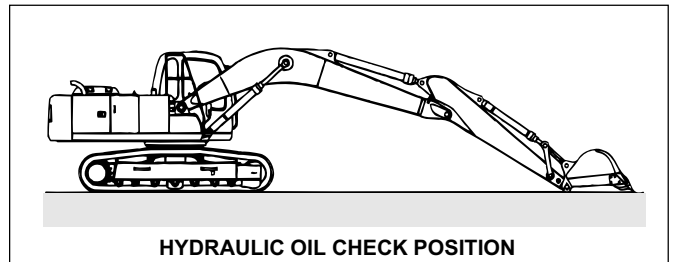

FIGURE 4.6A
1. Move the machine to firm level ground and place the attachments on the ground in the oil check position as shown in Figure 4.6A.